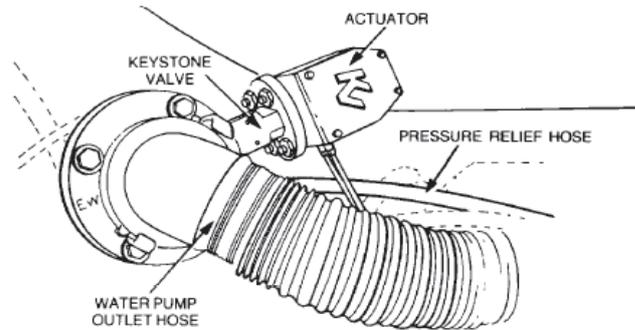

Figure 38 Keystone Valve and Actuator
- b. Remove and plug the pressure relief hose from the pump outlet (Figure 38) then open the three taps on the discharge manifold to drain the water from the flexible hoses.
- d. Remove the four nuts and washers securing the actuator to the Keystone valve (Figure 38) then remove the actuator from the valve and stow it on the chassis rail, taking care to avoid damaging or kinking the two air lines.